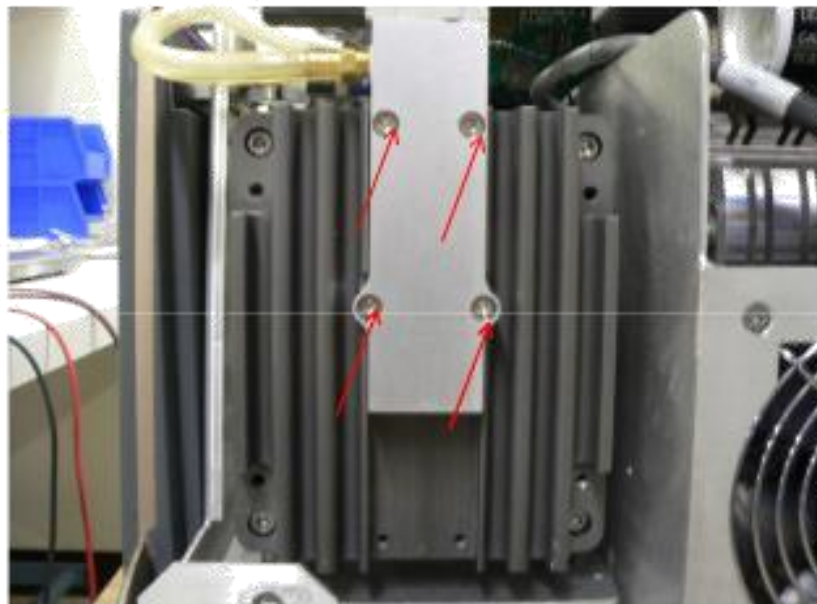

Figure 6: Manifold Block Connections
9. Unscrew the four M2 screws and remove the manifold block (Figure 6: Manifold Block Connections).